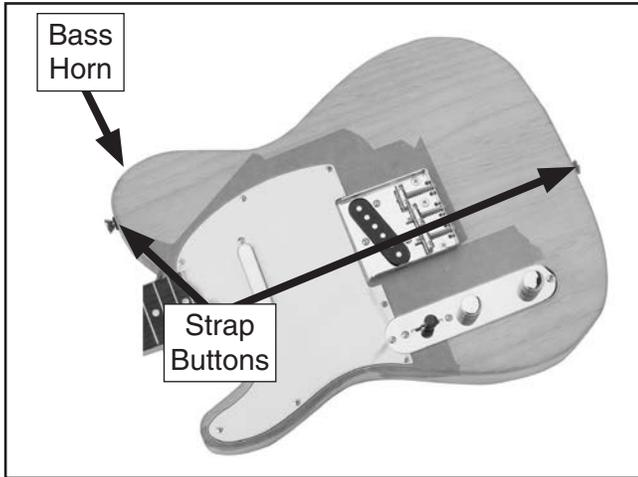

Figure 23. Strap buttons.
The strap buttons are positioned on the guitar, as shown in **Figure 23**.
1. Using a 1/16" drill bit, drill 3/4" deep holes at the end of the guitar—on the center line—and on the bass horn (see **Figure 23**).